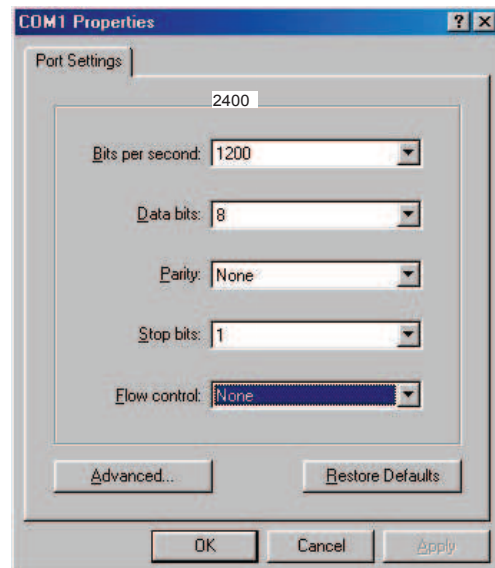

Figure 23
Step 4: The **COM Properties** screen appears (Figure 23). Select the port settings as shown.
The **COM Properties** Screen reappears (Figure 23). Click **OK**.